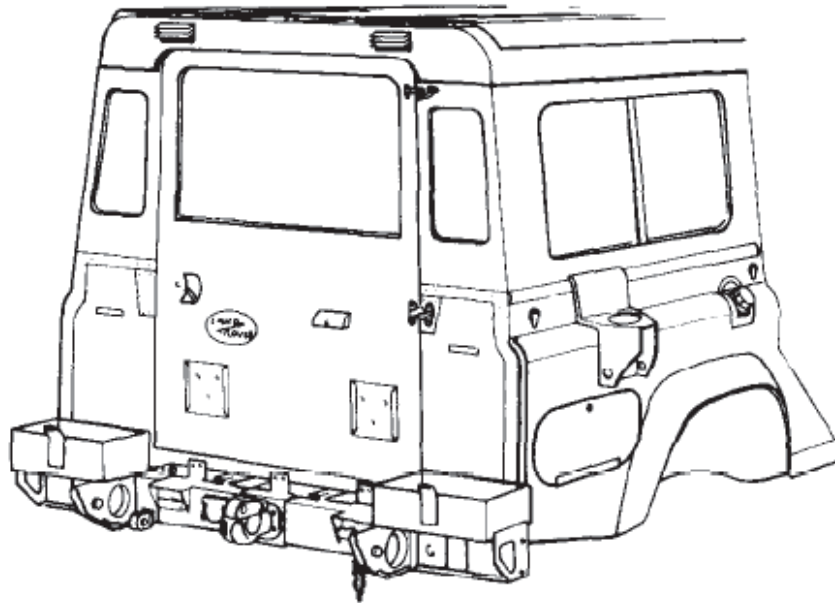

Figure 4 Rear Body
12. Rear Body. The rear body (Figure 4) utilizes a steel frame and pressed aluminium panels. These panels are riveted together to form the rear lower body and the upper body including the roof. Access to the rear inward facing seats is provided by opening the one-piece steel frame door which is hinged to the rear body and